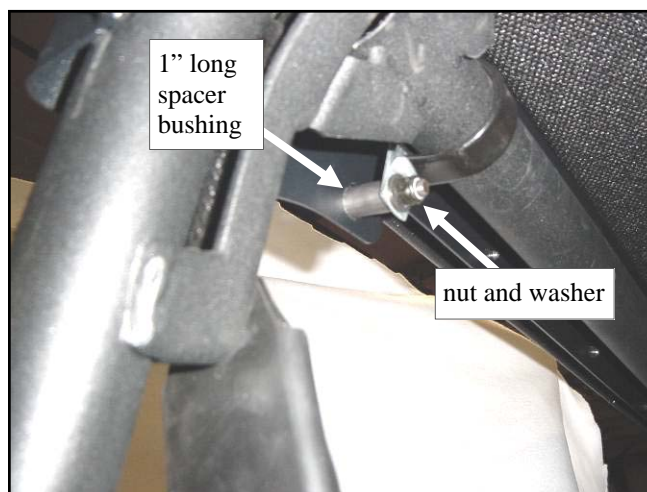

Fig. 3.7 (view from front of passenger's side)
3.7 Per fig. 3.7, install the 1" long, rear, steel spacer through the P-clamp. Use the following hardware for each of the two rear P-clamps: one 5/16-18 x 1-3/4" long button head bolt, two 5/16" small, standard, steel washers, and one locknut. The bolt should be finger tight at this time. Repeat for driver's side.